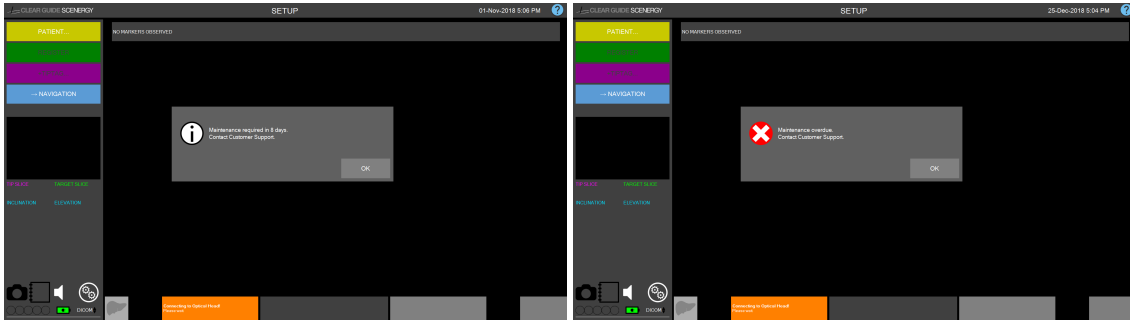

Figure 18: Maintenance expiration warning (left); overdue warning (right)
- (a) **Within two weeks of the next maintenance date**, the system will require an operator acknowledgment (Figure 18 left). During subsequent uses of the system, the user interface will show a persistent reminder message (the background color of the warning will be **orange**).
- (b) **If the maintenance date has passed**, the user will be asked to contact **CLEAR GUIDE MEDICAL** to schedule maintenance (Figure 18 right). The system must not be used clinically after the current maintenance date has passed. Instead, schedule a maintenance visit as soon as possible to ensure continued correct operation. During subsequent use of the system, the user interface will show a persistent warning message (red).